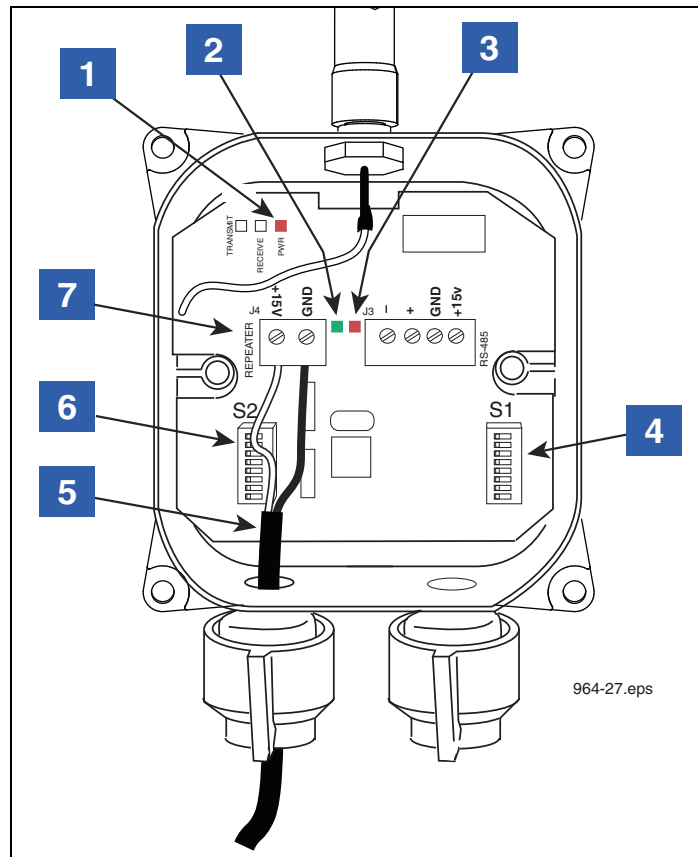

Figure 33. Wiring the Repeater
9. +15 Vdc power source for the Repeater. If used, connect two wires from item 9 connector in Receiver to item 7 connector in Repeater, see Figure 33.
4. Note the cover of the Repeater indicates the cord grip to be used for the cable connecting the Repeater to its DC power source (item 5 in Figure 33). Remove the cover of the Repeater and set it aside.
6. Connect the 2-wire DC power cable to the Repeater terminal block, white to +15 Vdc and black to GND (see item 7 in Figure 33).
LEGEND FOR NUMBERED BOXES IN Figure 33